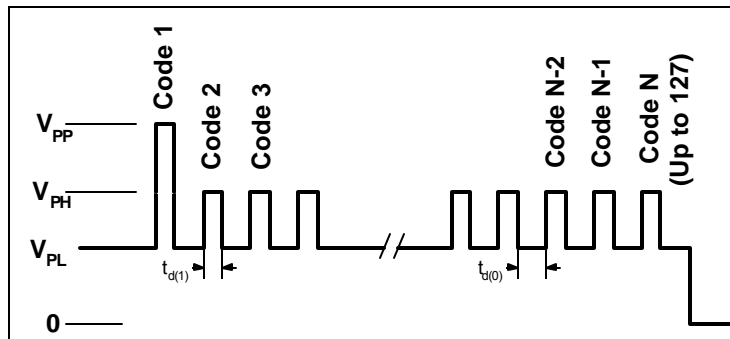

Figure 2 – Addressing Pulses: Positive Polarity
**Addressing with positive polarity.** The magnetic operate point ( $B_{OP}$ ) is adjustable using 7 bits or 128 addresses. The Addresses are sequentially selected (Figure 2) until the required operate point is reached. The first address must be selected with a High voltage pulse ( $V_{PP}$ ), while the remaining pulses should be  $V_{PH}$  Pulses. Note that the difference between  $B_{OP}$  and the magnetic release point ( $B_{RP}$ ), the Hysteresis ( $B_{HYS}$ ), is fixed for all addresses.